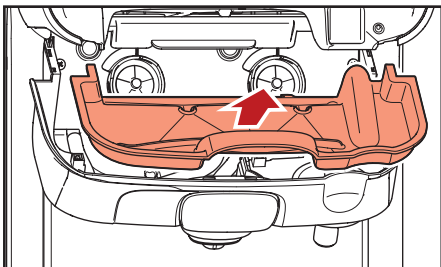

Fig. 5.11- Remove internal drip tray
- c. Remove the internal drip tray and clean it, if necessary (fig. 5.11).